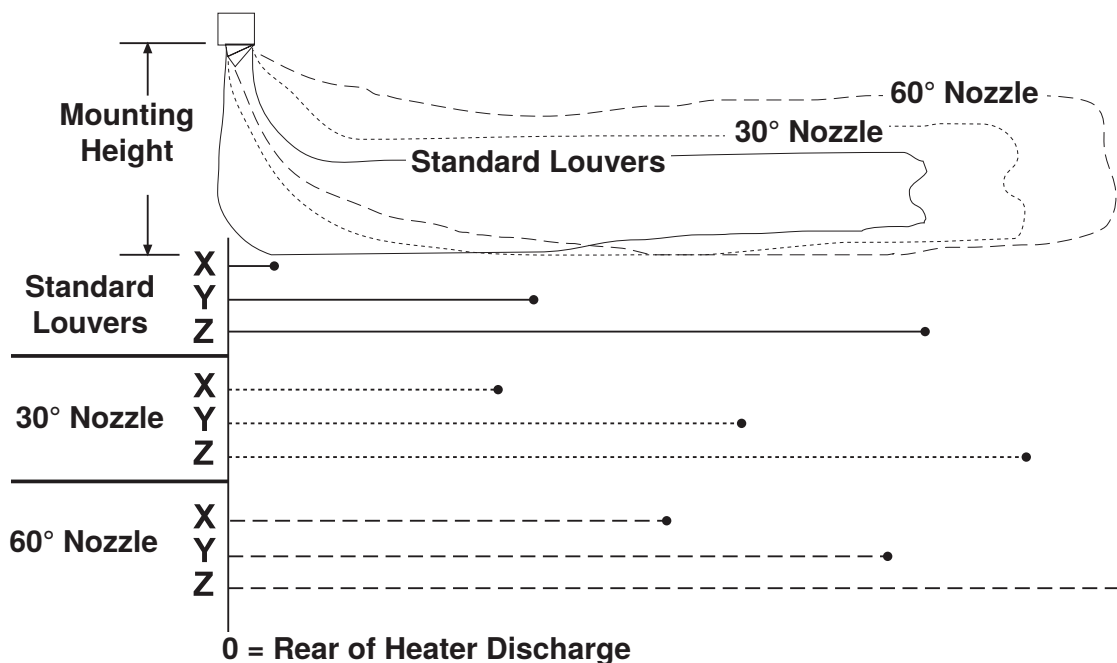

Figure 2. Heater Throw Patterns (Refer to Table 1)
Figure 2 shows throw patterns for all unit sizes in heat mode at high speed. **Table 1** lists throw distances for standard louvers facing one direction and fully open. The throw pattern changes with louver angle, two-way louver direction, and/or optional four-way louvers.
*See Figure 2 .